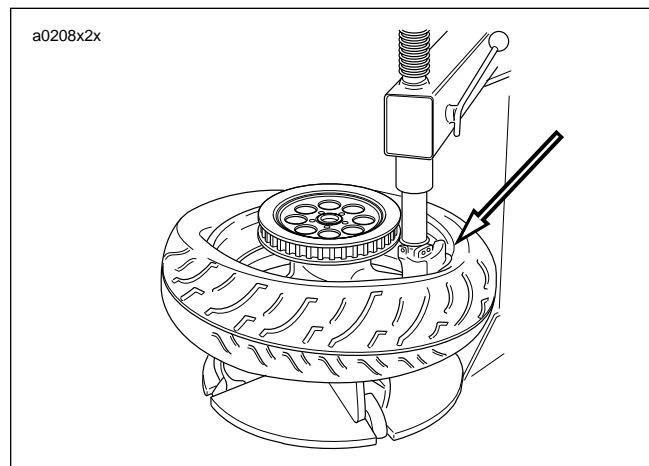

Figure 2-22. Tire Machine Pulling Bead Off Rim
5. See Figure 2-22. Install wheel onto jaws of tire machine. Lubricate tire bead with soap solution.